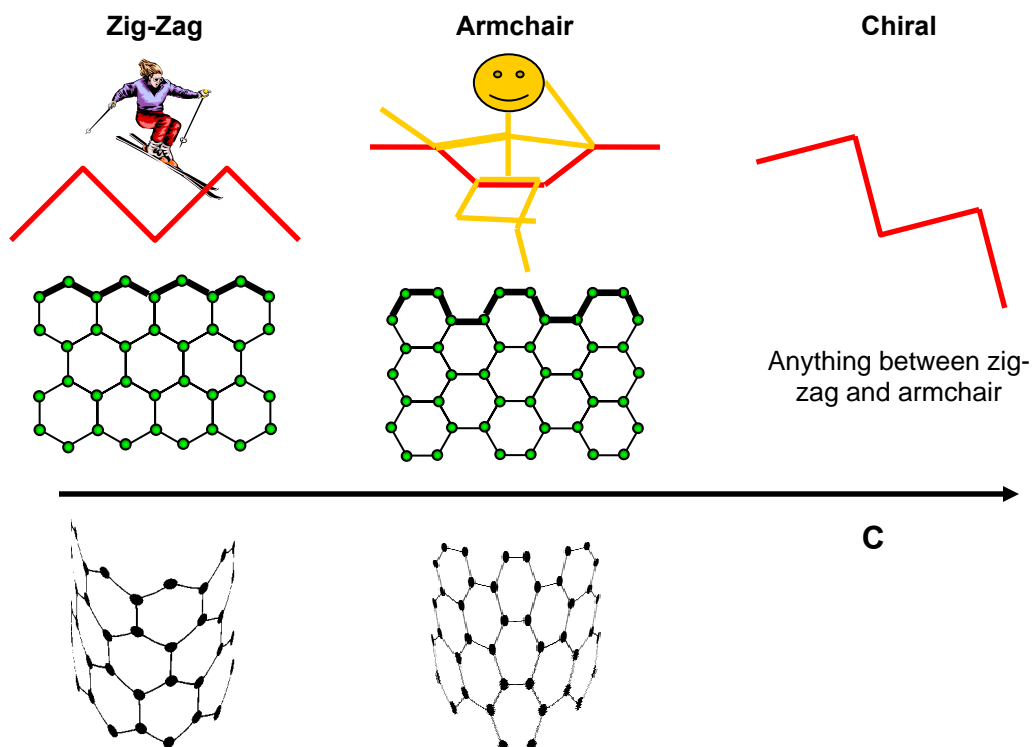

Fig. 5. The three different kinds of carbon nanotubes: zig-zag, armchair, and chiral.
Nanotubes can be grouped into different categories based on the amount of twist in the pattern of the carbon atoms around the nanotube's circumference (C). The three types of nanotubes are armchair, zig-zag, and chiral (Figure 5).